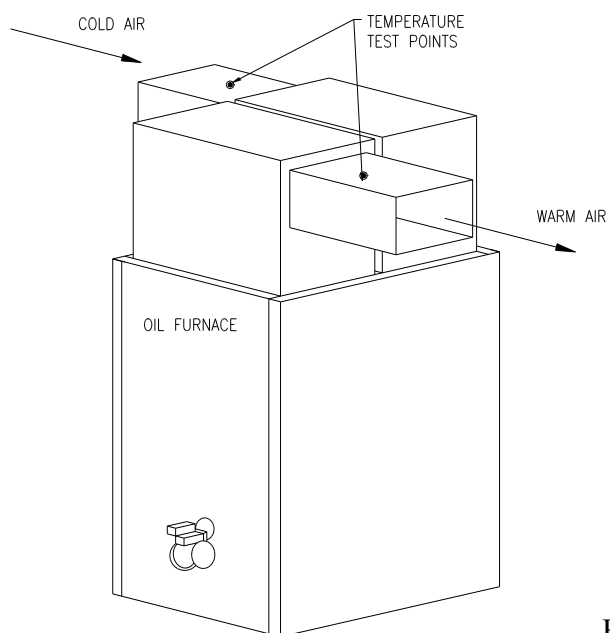

FIG. 6
- Temperature measurements are taken at two points in the oil furnace duct work. One at the cold air return plenum and one at the warm air plenum. (See Fig. 6). These measurements can be taken using a dial thermometer or a thermocouple temperature indicator. Holes must be drilled into the plenums to allow insertion of the thermometer stem or thermocouple wire. Care should be taken while measurements are obtained to reduce the amount of air leakage around the stem or wire. Leakage could result in measurement error. The oil furnace must be operated at least 10 minutes to reach operating temperatures before measurements can be taken and recorded. The temperature rise is determined by subtracting the inlet temperature from the outlet temperature.